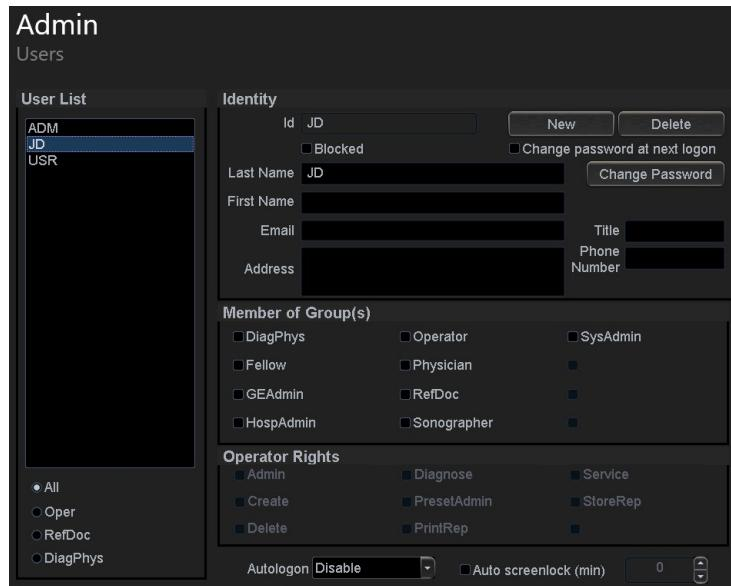

Figure 8-43. Admin/Users tab
3. Enter a user ("JD" in Figure 8-43). Make sure you remember the password defined on this screen.